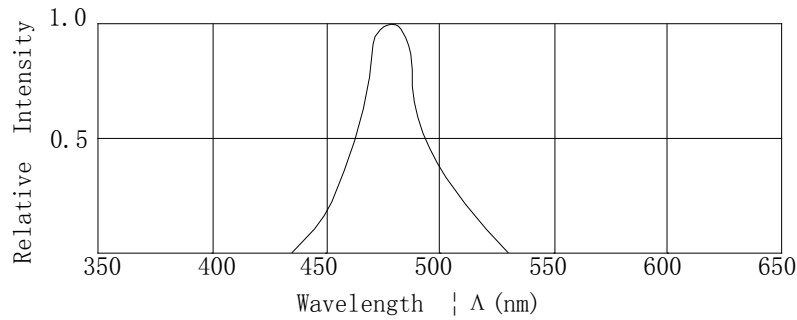

Fig.1 Relative Intensity VS. Wavelength
Figure 1 is a graph showing the recommended soldering profile for 60/40 Sn/Pb solder. The y-axis represents Temperature (T) in degrees Celsius, ranging from 0 to 300. The x-axis represents Time (t) in seconds, ranging from 0 to 300. The profile shows a ramp up from 25°C to 217°C (melting point) at 120 s max, a dwell at 217°C, a ramp up to 255°C (boiling point) at 100 s max, a dwell at 255°C, and a ramp down at 6K/s (max). The recommended profile is shown as a solid line, and the maximum and minimum profiles are shown as dashed lines.